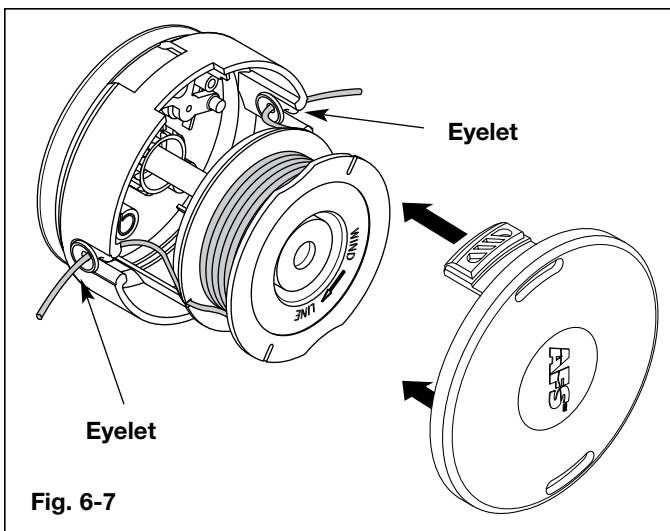

Fig. 6-7
13. Insert the ends of the line through the eyelets in the outer spool and place inner reel inside the outer spool (Fig. 6-7).
3. Take the prewound inner reel and Insert the ends of the line through the eyelets in the outer spool (Fig. 6-7).